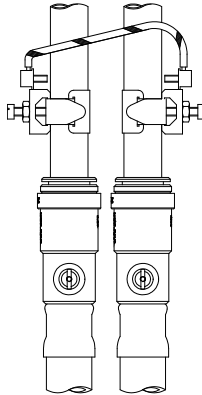

Figure 13
- **Adjacent pipes:** Adjacent suction and delivery pipes should be fitted with earthing clamps and connected with earthing wire size 4 mm² (Figure 13).